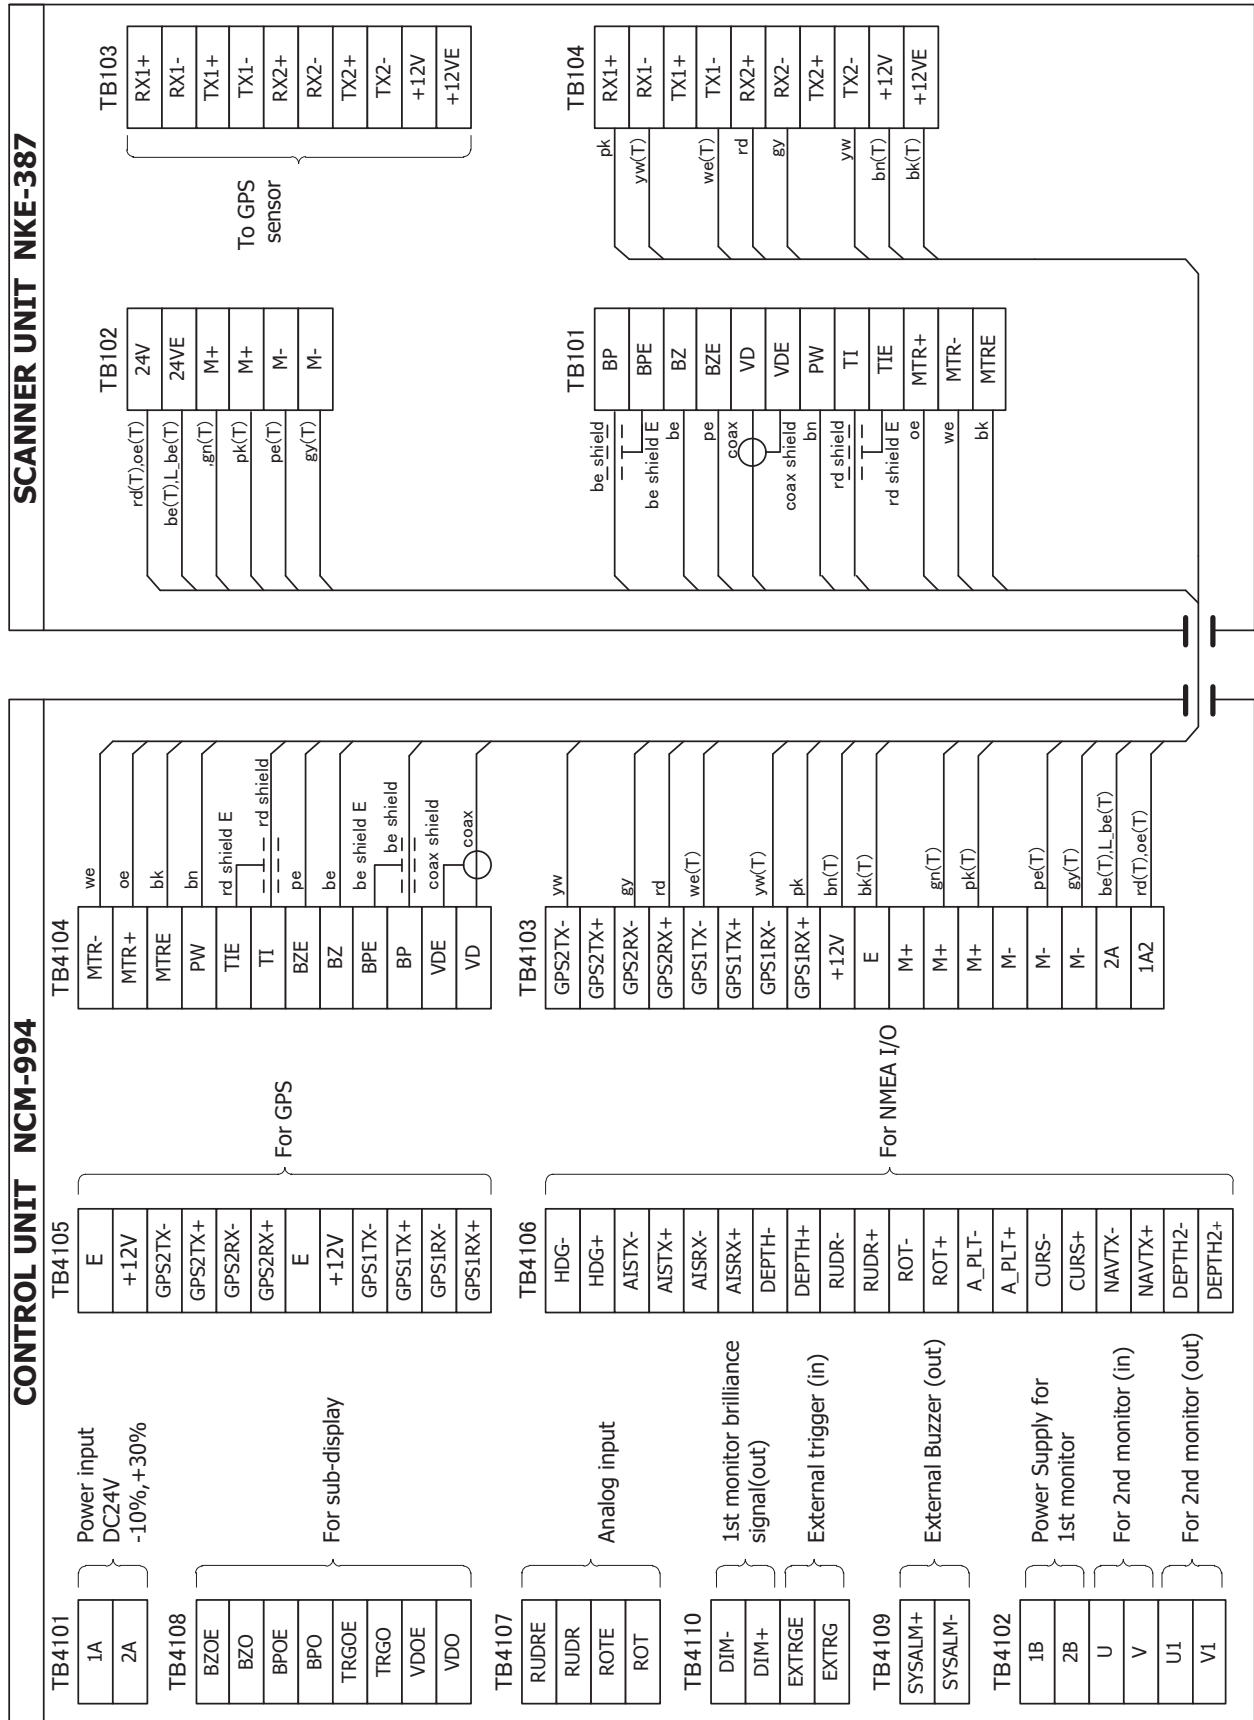

Fig.2 Terminal Diagram of JMR-611
- Fig.2 Terminal Diagram of JMR-611